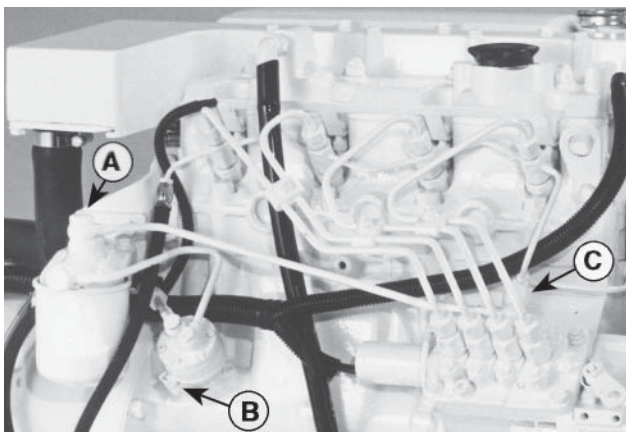

Figure 6
2. Loosen bleed bolt "A" (figure 6) on top of the filter. Pump hand primer "B" on fuel lift pump until pure fuel (no bubbles) escapes from bleed bolt "A". Tighten bleed screw "A".